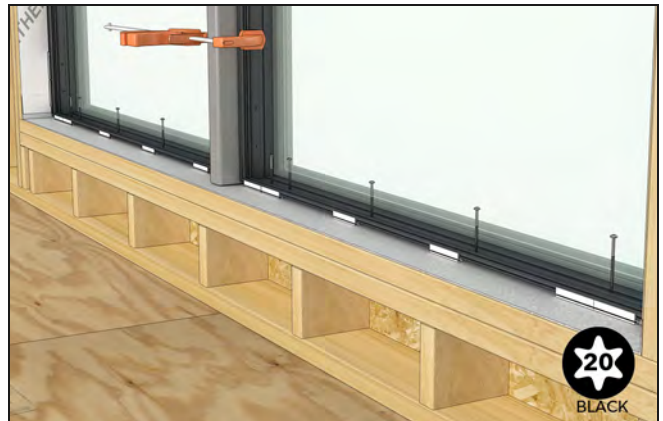

Figure 137
22. Making sure the B2 frame is aligned along the correct exterior plane, fasten the sill through pre-drilled holes in both frames. See Figure 137.